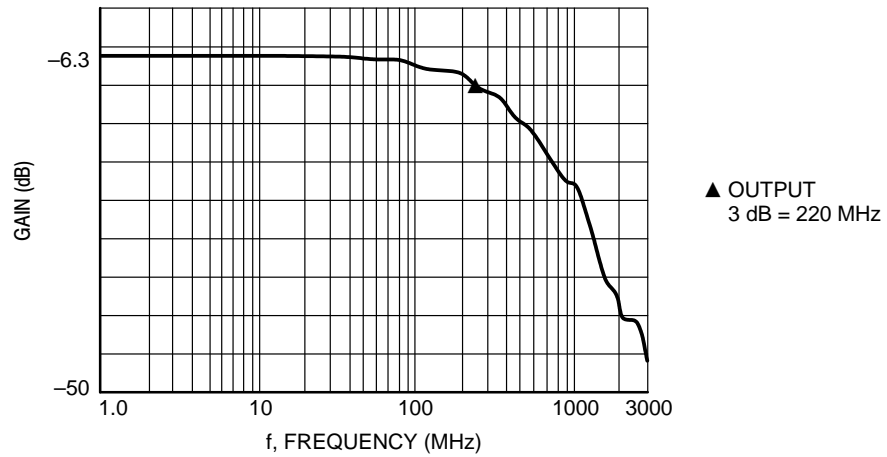

Figure 2. Typical EMI Filter Response
- Nominal Cutoff Frequency of 220 MHz (per Figure 2)